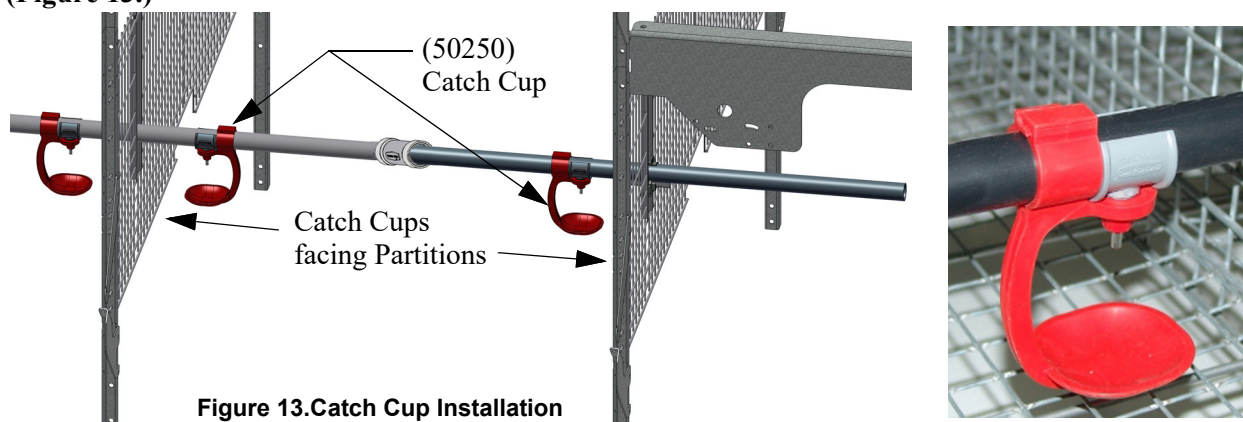

Figure 13.Catch Cup Installation
1. Attach the Catch Cups (50250) by snapping them over the Nipples. Catch Cups face the Partitions as shown **(Figure 13.)**